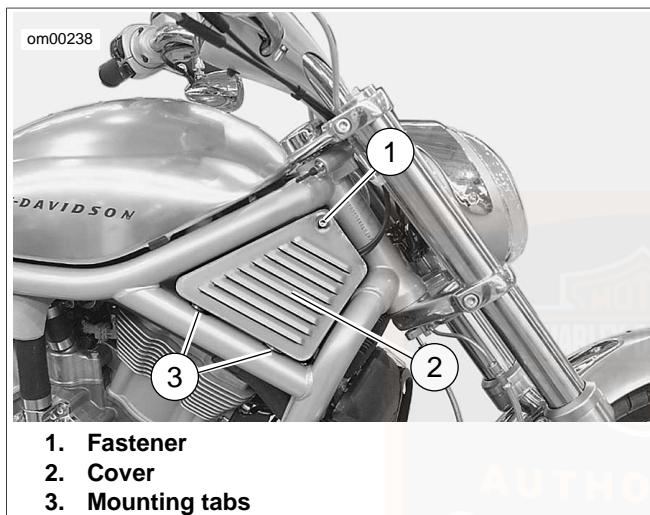

Figure 31. Side Cover: VRSC Models
1. See Figure 31. Remove the fastener and louvered side cover with vehicle on jiffy stand.